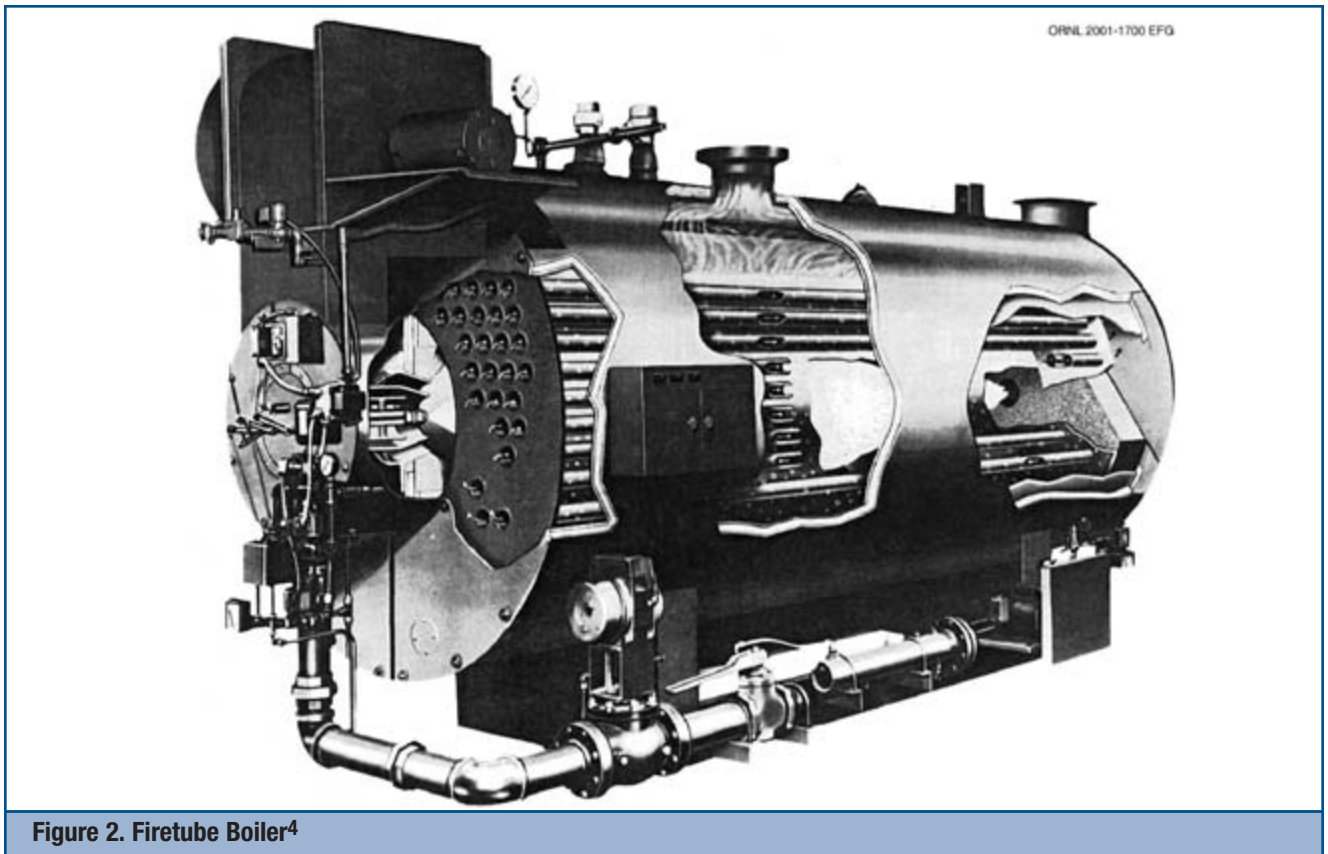

Figure 2. Firetube Boiler4
Figure 2. Firtube Boiler	5
**Firetube boilers.** In firetube boilers, the combustion gases pass inside boiler tubes, and heat is transferred to water on the shell side. A representative firetube boiler is shown in Figure 2. Scotch marine boilers are the most common type of industrial firetube boiler. The Scotch marine boiler is an industry workhorse due to low initial cost, and advantages in efficiency and durability. Scotch marine boilers are typically cylindrical shells with horizontal tubes configured such that the exhaust gases pass through these tubes, transferring energy to boiler water on the shell side.